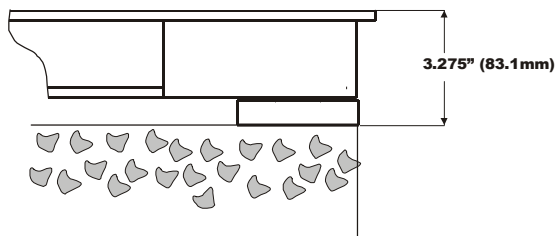

FIG. 4 MAXIMUM HEIGHT
- Step 1. Place the platform scale on the operating location. Make sure that the platform height is within 3 to 3.275" as measured from the top of the cover plate to the top of the floor surface. (See Fig. 4)